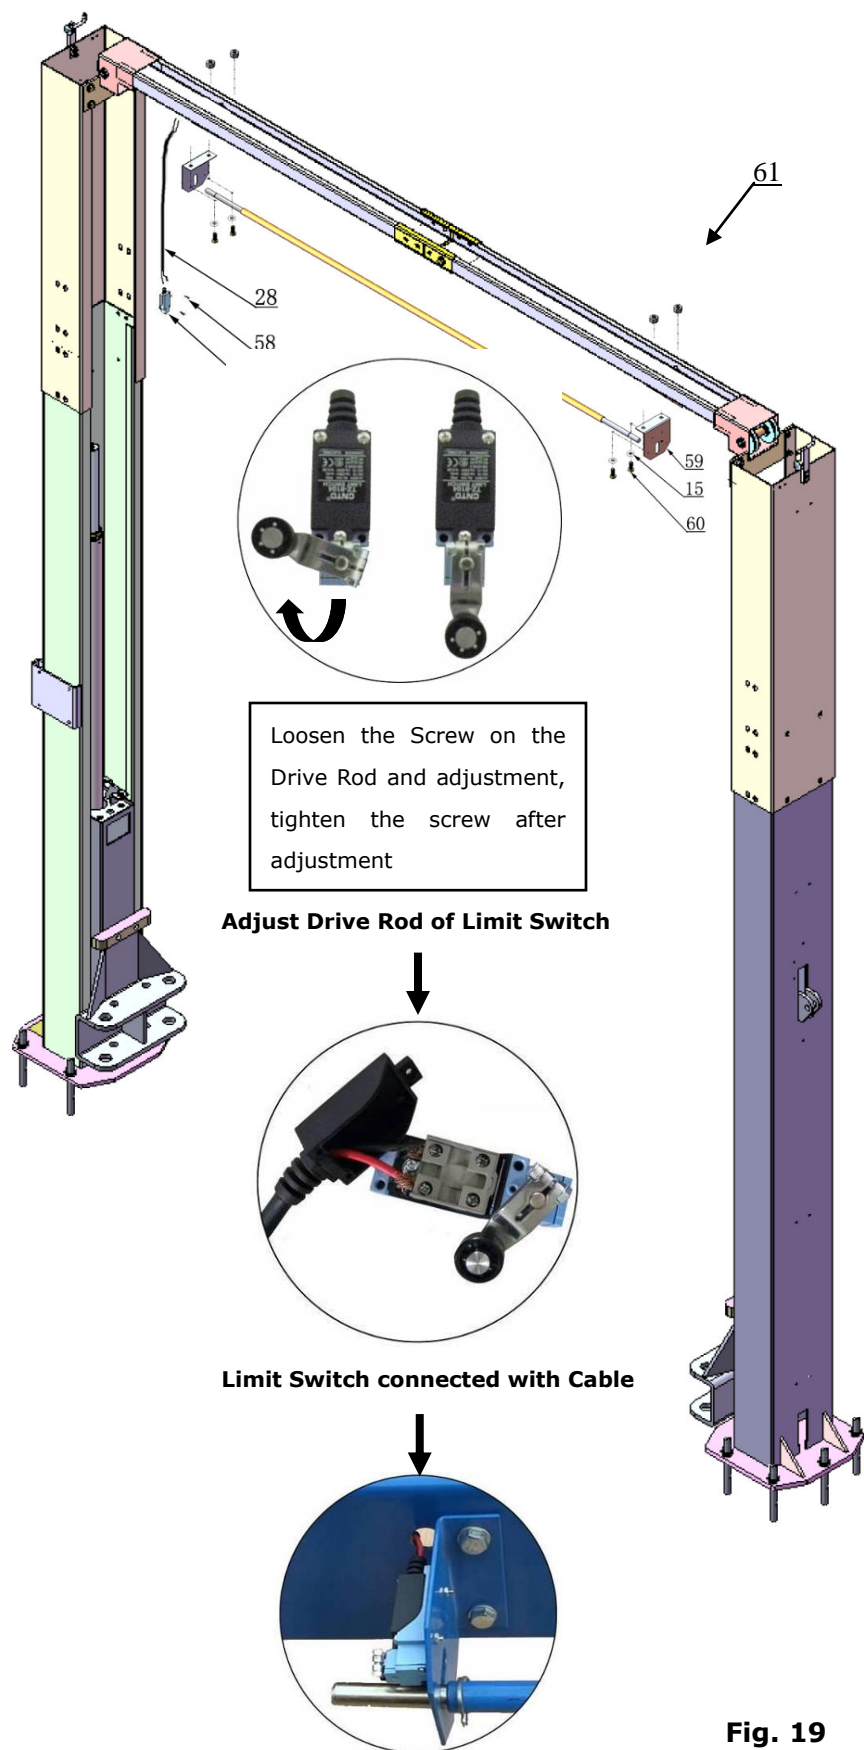

Fig. 19
H. Installing the Control Bar and Limit Switch (See Fig. 19).